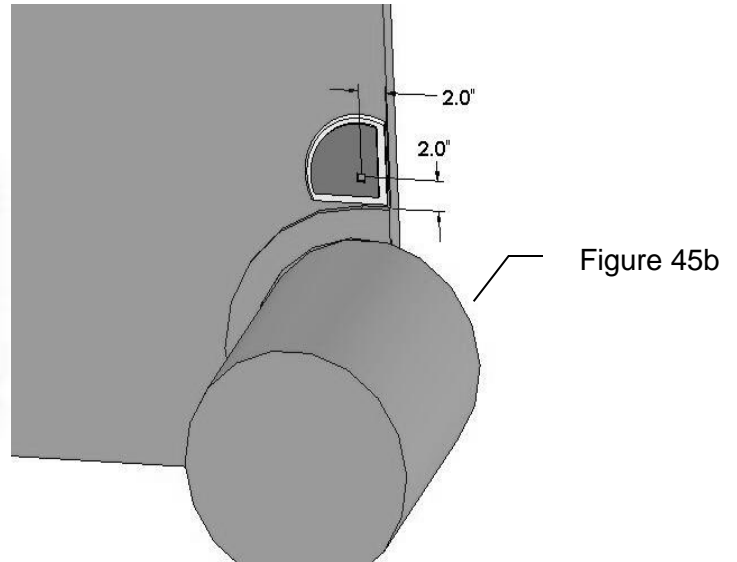

Figure 45b
4. The mounting hole will be 3/4" (19mm) in diameter. The disc will need to be placed on the baler to line up the location of 1" (25mm) up from bottom and 2" (51mm) from the back of chamber to the center of the bolt. (Figure 45b)